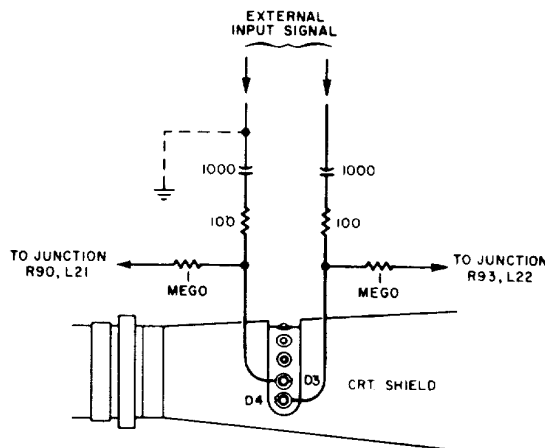

Figure 3-4. Connections for Direct Deflection Operation
- a. With power disconnected from the oscilloscope, remove the access plate on the top of the cabinet, which exposes the CRT direct deflection terminals as shown in figure 3-4.
- c. Connect input coupling components to provide for input signal and bias voltage coupling as shown in figure 3-4. Use capacitors with good high-frequency response, such as C103 listed in table 6-2. With the bias connections shown, the front panel VERTICAL POSITION control remains effective.
- d. For single-ended input, ground the common signal lead at the point shown by the dashed ground lead in figure 3-4. For balanced input, leave both signal leads ungrounded.